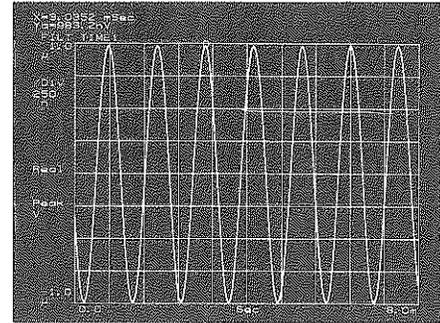

Figure 8-2
9. Activate Marker Press the **X** key to activate the X-axis trace marker. Notice that the marker readout is in terms of time (msec) and (voltage) $\div (1 \times E6)$ as shown in Figure 8-2.